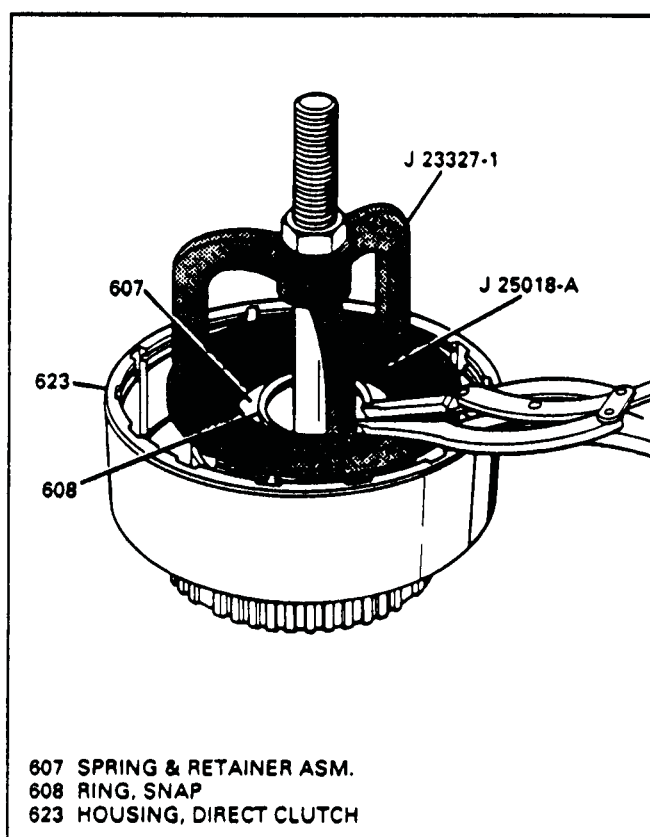

Figure 70
4. Compress the return spring assembly as shown in Figure 70, and remove the snap ring.
19. Install spring retainer, compress spring retainer, and install snap ring as shown in Figure 70.